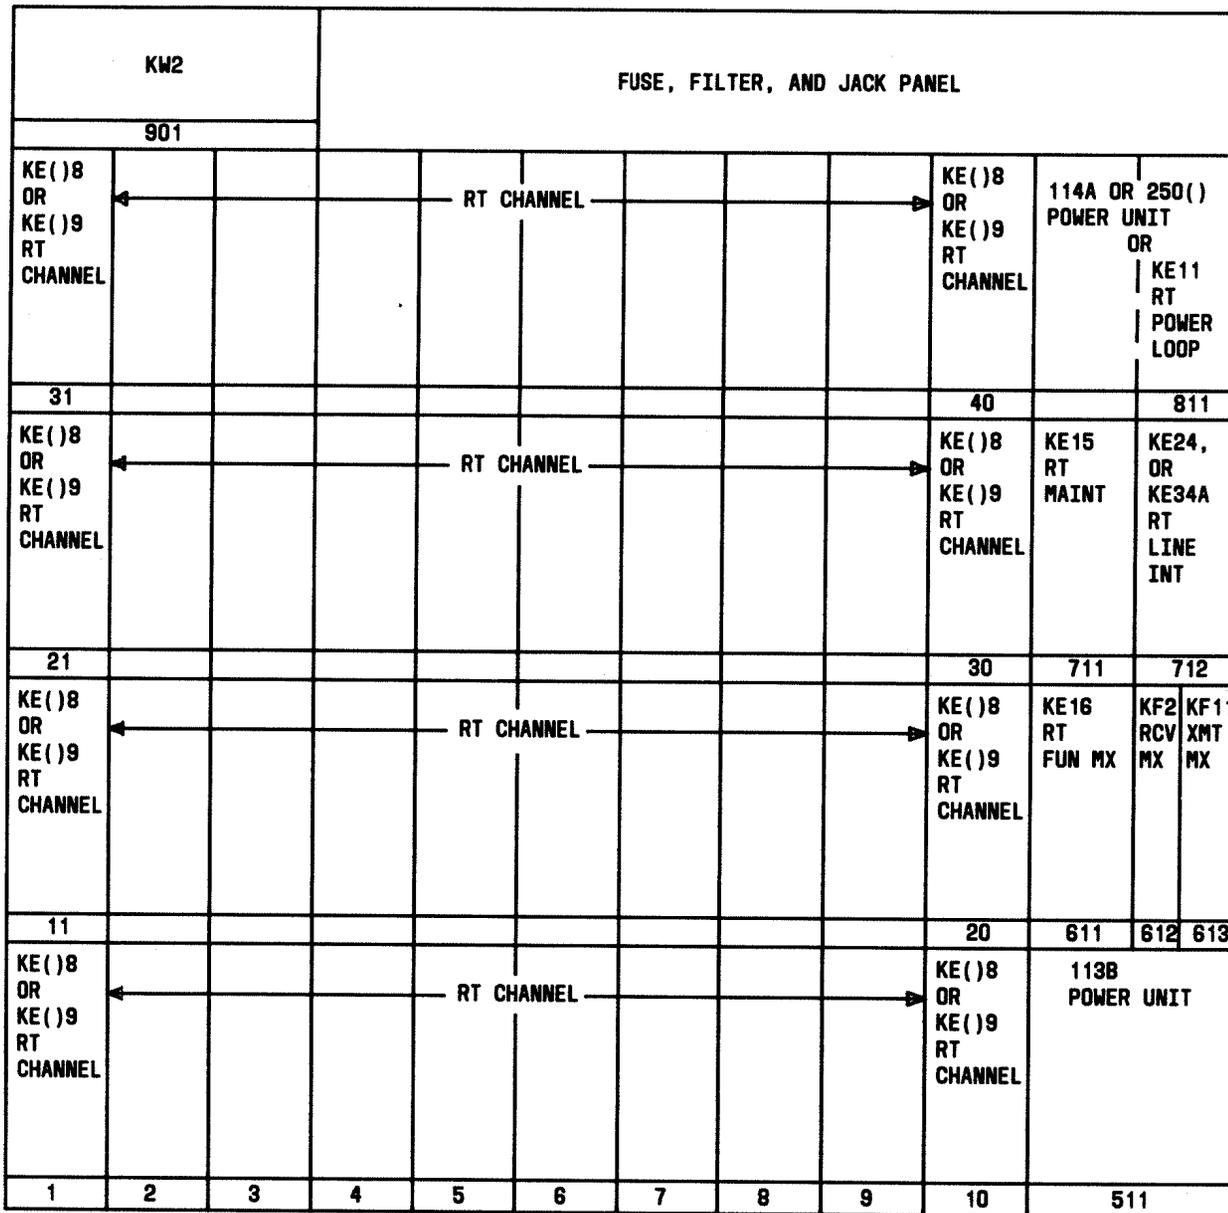

FIG. 2 - RT Frame (Upper System) - Circuit Pack Locations Shown
1. Place, but do not plug in, each circuit pack where it belongs according to FIG. 1 and FIG. 2, Page 2